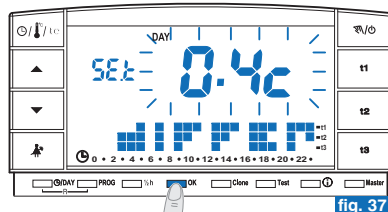

fig. 37
- Press **OK** twice the desired value is obtained to return to program operation (example in fig. 37).